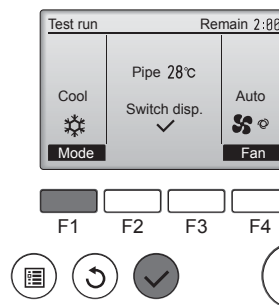

Fig. 7-6
- ① Press the button to go through the operation modes in the order of "Cool" and "Heat". (Fig. 7-6)